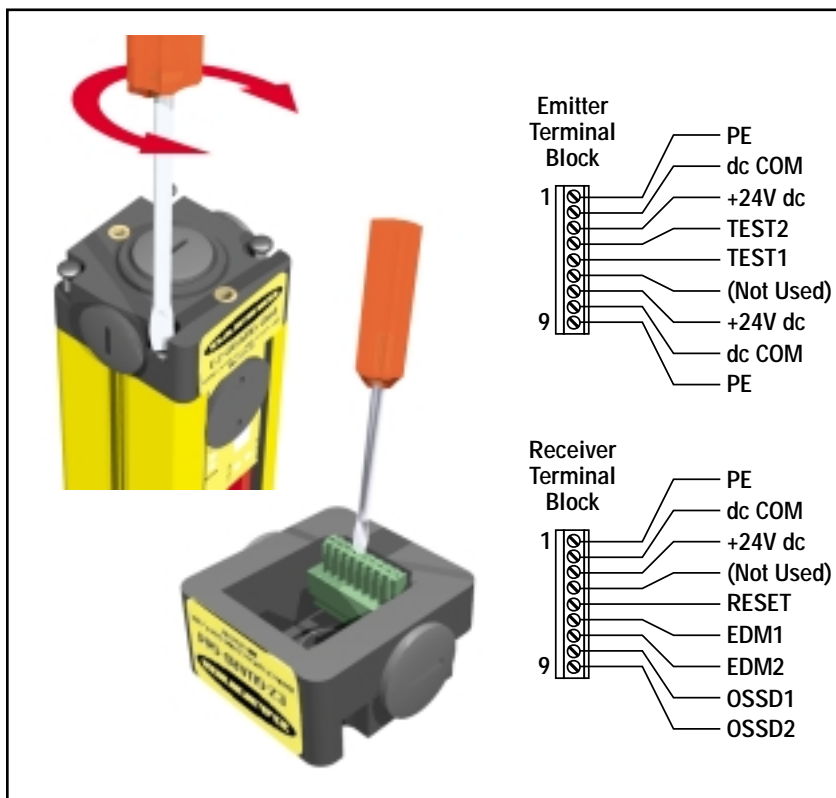

Figure 3-11. Making connections to the sensor terminal blocks
For easy wiring, each EZ-GUARD sensor has a removable modular terminal block inside one end cap, at the same end as the indicators. See Figure 3-11. To make connections:
- 4) Route the wires or cabling through the bracket (if necessary) and the wiring chamber end cap. Remove outer cable insulation as necessary (approximately 1" to 2") and strip the individual wire insulation approximately 7 mm (0.25"); make connections to terminals as indicated in Figure 3-11. Torque the terminal screws to 0.22 to 0.25 N m (1.9 to 2.2 in. lbs.) recommended torque.